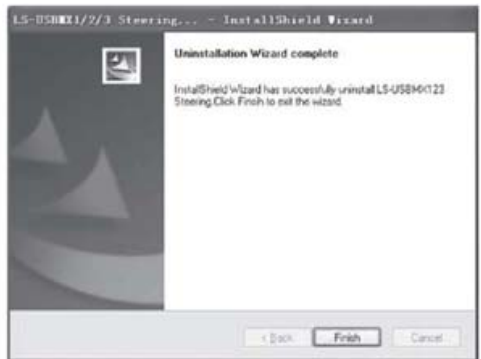

Fig. 12
• At the end in the appeared window “LS- USBMX1/2/3 steering...” (see Fig. 12) click “Finish” to confirm and quit.